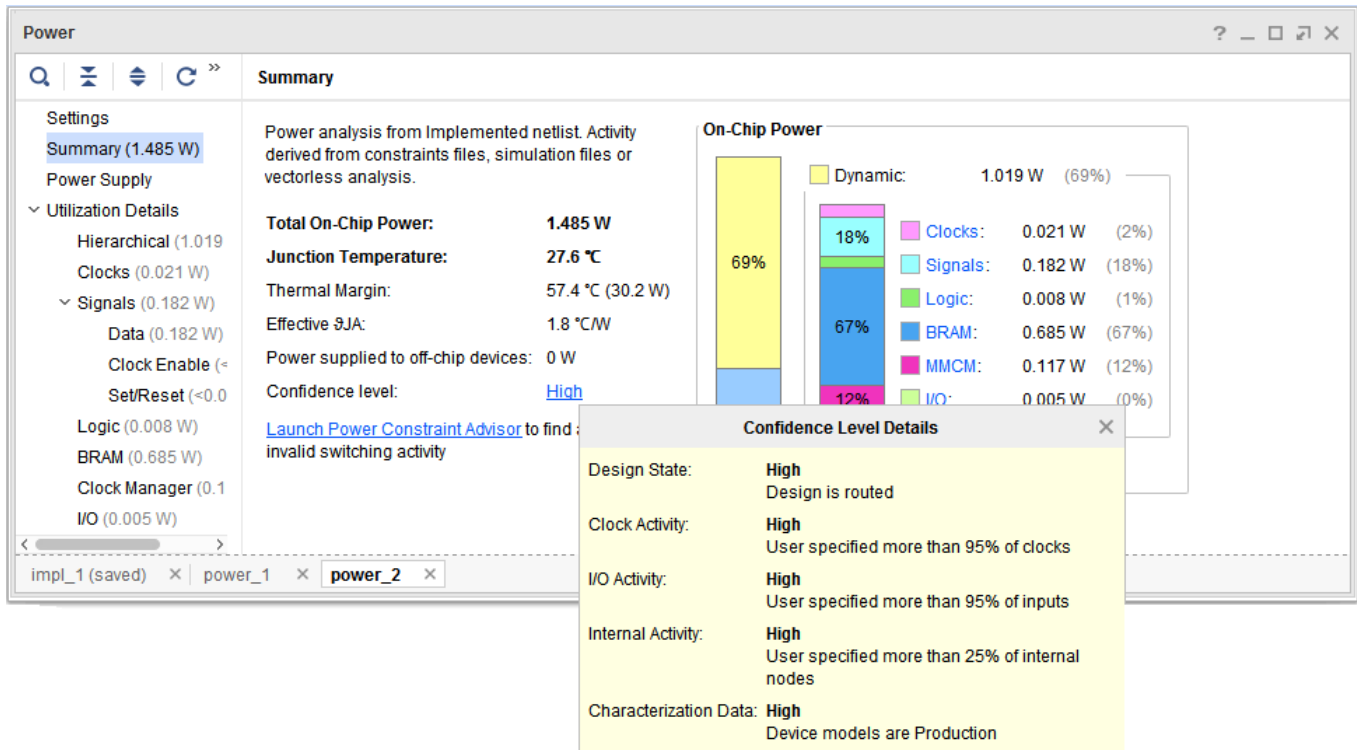

Figure 40: Confidence Level for Power Analysis with SAIF Input (power_2)
- In the **Summary** view of the **power_2** report (the report generated by the analysis for which you specified a SAIF file as input), click on **Confidence level (High)** in Figure 40).